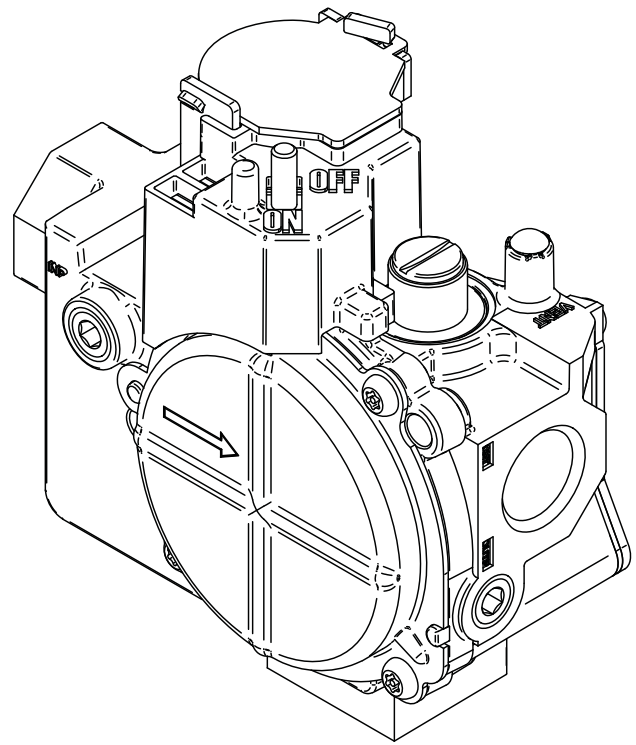

Fig. 52 - Gas Control Valve
- b. Remove manifold pressure tap plug from gas valve. (See Fig. 52.)